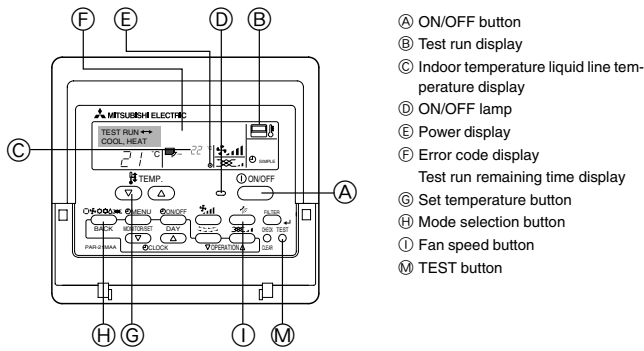

Fig. 9-2
9.2.2. Wired remote controller (Fig. 9-2)
- ① Turn on the power at least 12 hours before the test run.
- ② Press the [TEST] button twice. ⇒ "TEST RUN" liquid crystal display
- ③ Press the [Mode selection] button. ⇒ Make sure that wind is blown out.
- ④ Press the [Mode selection] button and switch to the cooling (or heating) mode. ⇒ Make sure that cold (or warm) wind is blown out.
- ⑤ Press the [Fan speed] button. ⇒ Make sure that the wind speed is switched.
- ⑥ Check operation of the outdoor unit fan.
- ⑦ Release test run by pressing the [ON/OFF] button. ⇒ Stop
- ⑧ Register a telephone number.